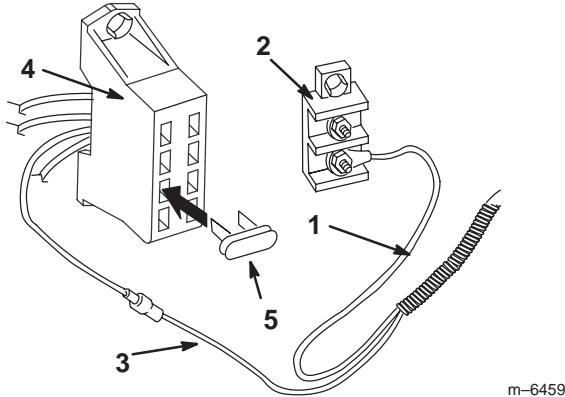

Figure 11
2. Connect the ring or fork terminal on the black wire to the ground terminal block (Fig. 11).
4. Insert the 30-amp fuse into the fuse block in the position where you connected the red wire (Fig. 11).